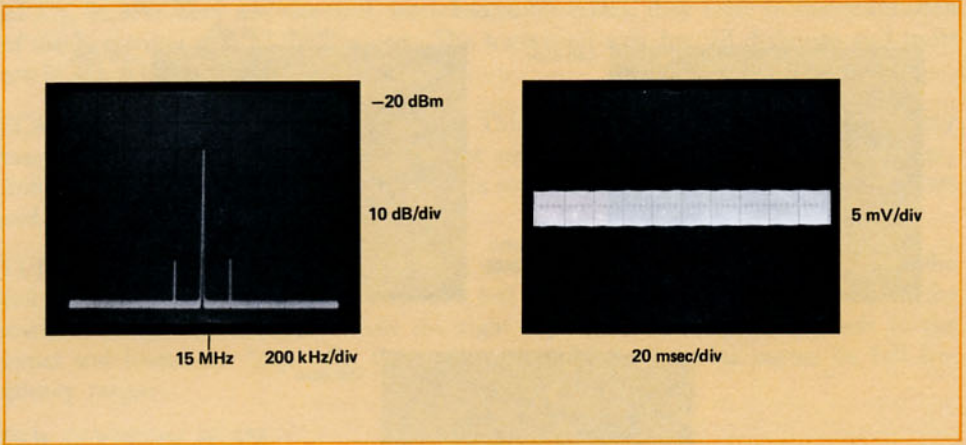

Figure 1.4
2. The sensitivity and wide dynamic range of the analyzer is useful for measuring low-level modulation. In Figure 1.4 the 2% AM can be measured easily with the spectrum analyzer where it can barely be seen with an oscilloscope.